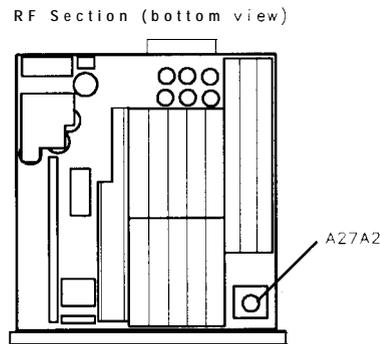

Figure 3-55. Location of A27A2 Adjustment
16. Use a nonconductive adjustment tool to adjust the 18-turn **FREQ ADJ** capacitor on the **A27A2** 10 MHz Quartz Crystal Oscillator for a Frequency Counter indication of 0.00 Hz. See Figure 3-55 for the location of the **A27A2** 10 MHz Quartz Crystal Oscillator.